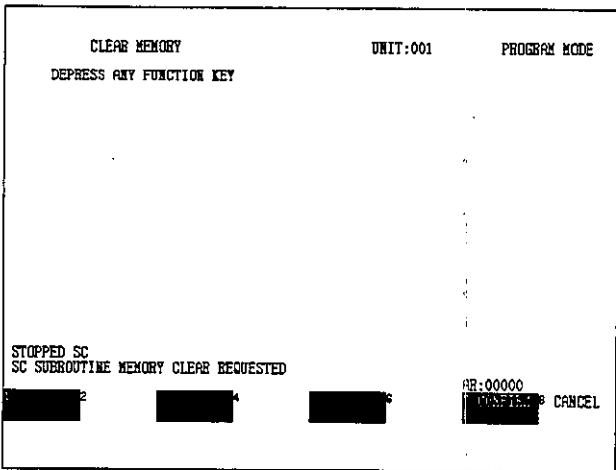

Figure 6.19
- 5) Select Clear Subroutine. The screen shown in *Figure 6.19* will be displayed. (See Note (3))